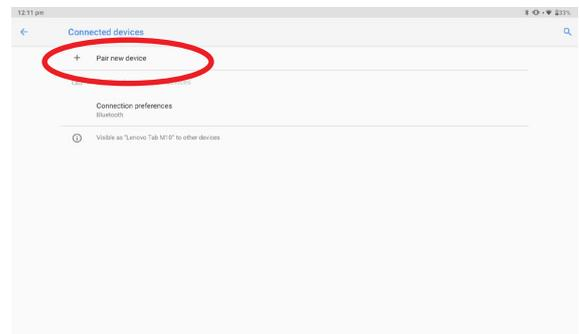

Figure 43
3. Click "Pair New Device" (Figure 43)